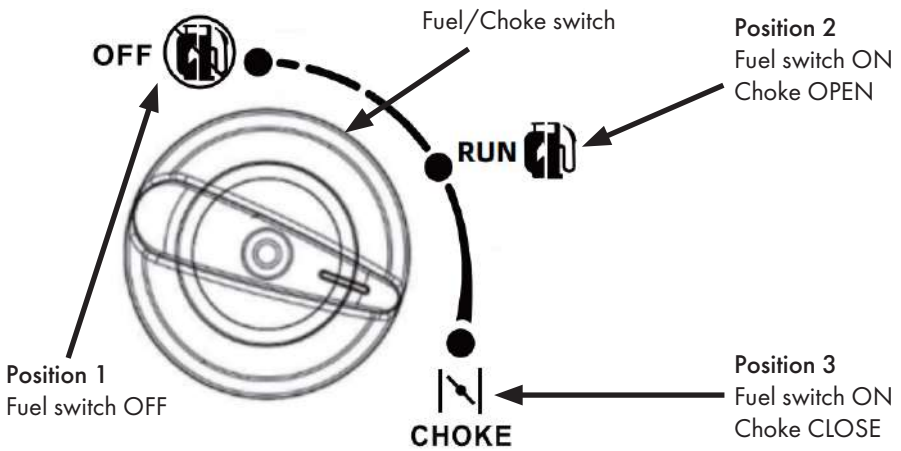

fig. 12
- Turn the fuel/choke switch into position 3 for cold start. Refer to fig. 12 for correct cold start position.
- Repeat the same procedure as for a cold start, but turn the fuel/choke switch to position 2 for a warm start. Refer to fig. 12 for correct warm start position.
- Close the Fuel/Choke switch by putting it in position 1. See fig. 12.